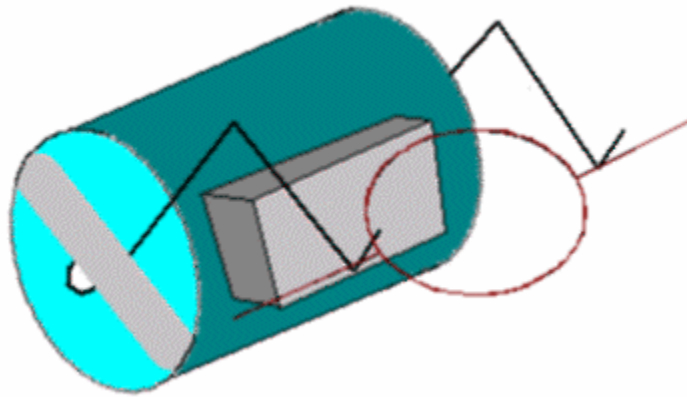

Figure 1 -- Beakman's Motor
The projects in this course typically involve building an initial design that we give you, improving the design, and comparing the initial and final results. For the initial design in this project, you will build a motor using the instructions in a video clip from an old television series, called “Beakman’s World”. Try to build this first motor with characteristics that match the motor in the video as closely as possible. When assembled, it should look much like the motor pictured in figure 1. Here are some basic instructions:
1. Use a DC power supply in the studio set to no more than 1.5V or a single 1.5V battery. (You must use a battery for the initial design, Beakman’s motor in figure 1.)